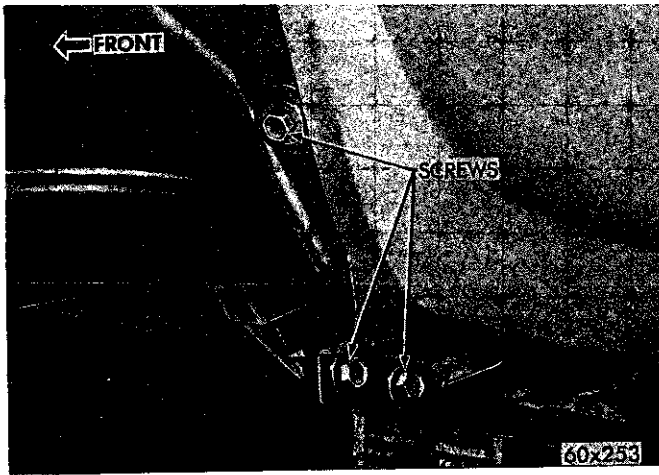
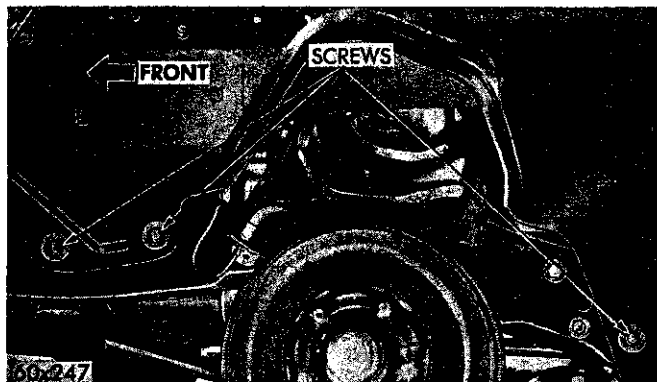

Fig. 7—Splash Shield to Body Frame Mounting
Fig. 8—Splash Shield to Stub Frame Mounting
- (7) Remove the splash shield to body frame mounting bolts (Fig. 7) and the splash shield to stub frame mounting bolts (Fig. 8).
(8) Remove the fender to body sill bolts (two each side), (Fig. 7) and the fender to body post bolts.